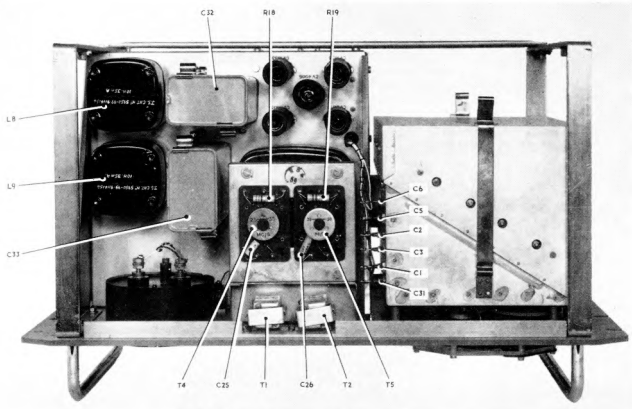

Fig. 2. Signal generator CT406: top view
36. Servicing must be restricted, at second or third line, to replacement of valves and of passive components other than those associated with frequency or output level calibration. See fig. 2, 3, 4, and 5 for locations.